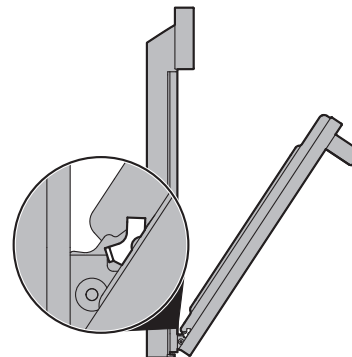

Figure 16: Removal position
3. Grasp the door by the sides, and close the door until the door frame makes contact with the unlocked hinges (Figure 16).
2. Hold the oven door at the same angle as the removal position (Figure 16) Carefully insert the hinge levers into the oven frame until you feel the hinge levers are seated into the hinge notches. The hinge arms must be fully seated into the hinge notches before the oven door can be fully opened..